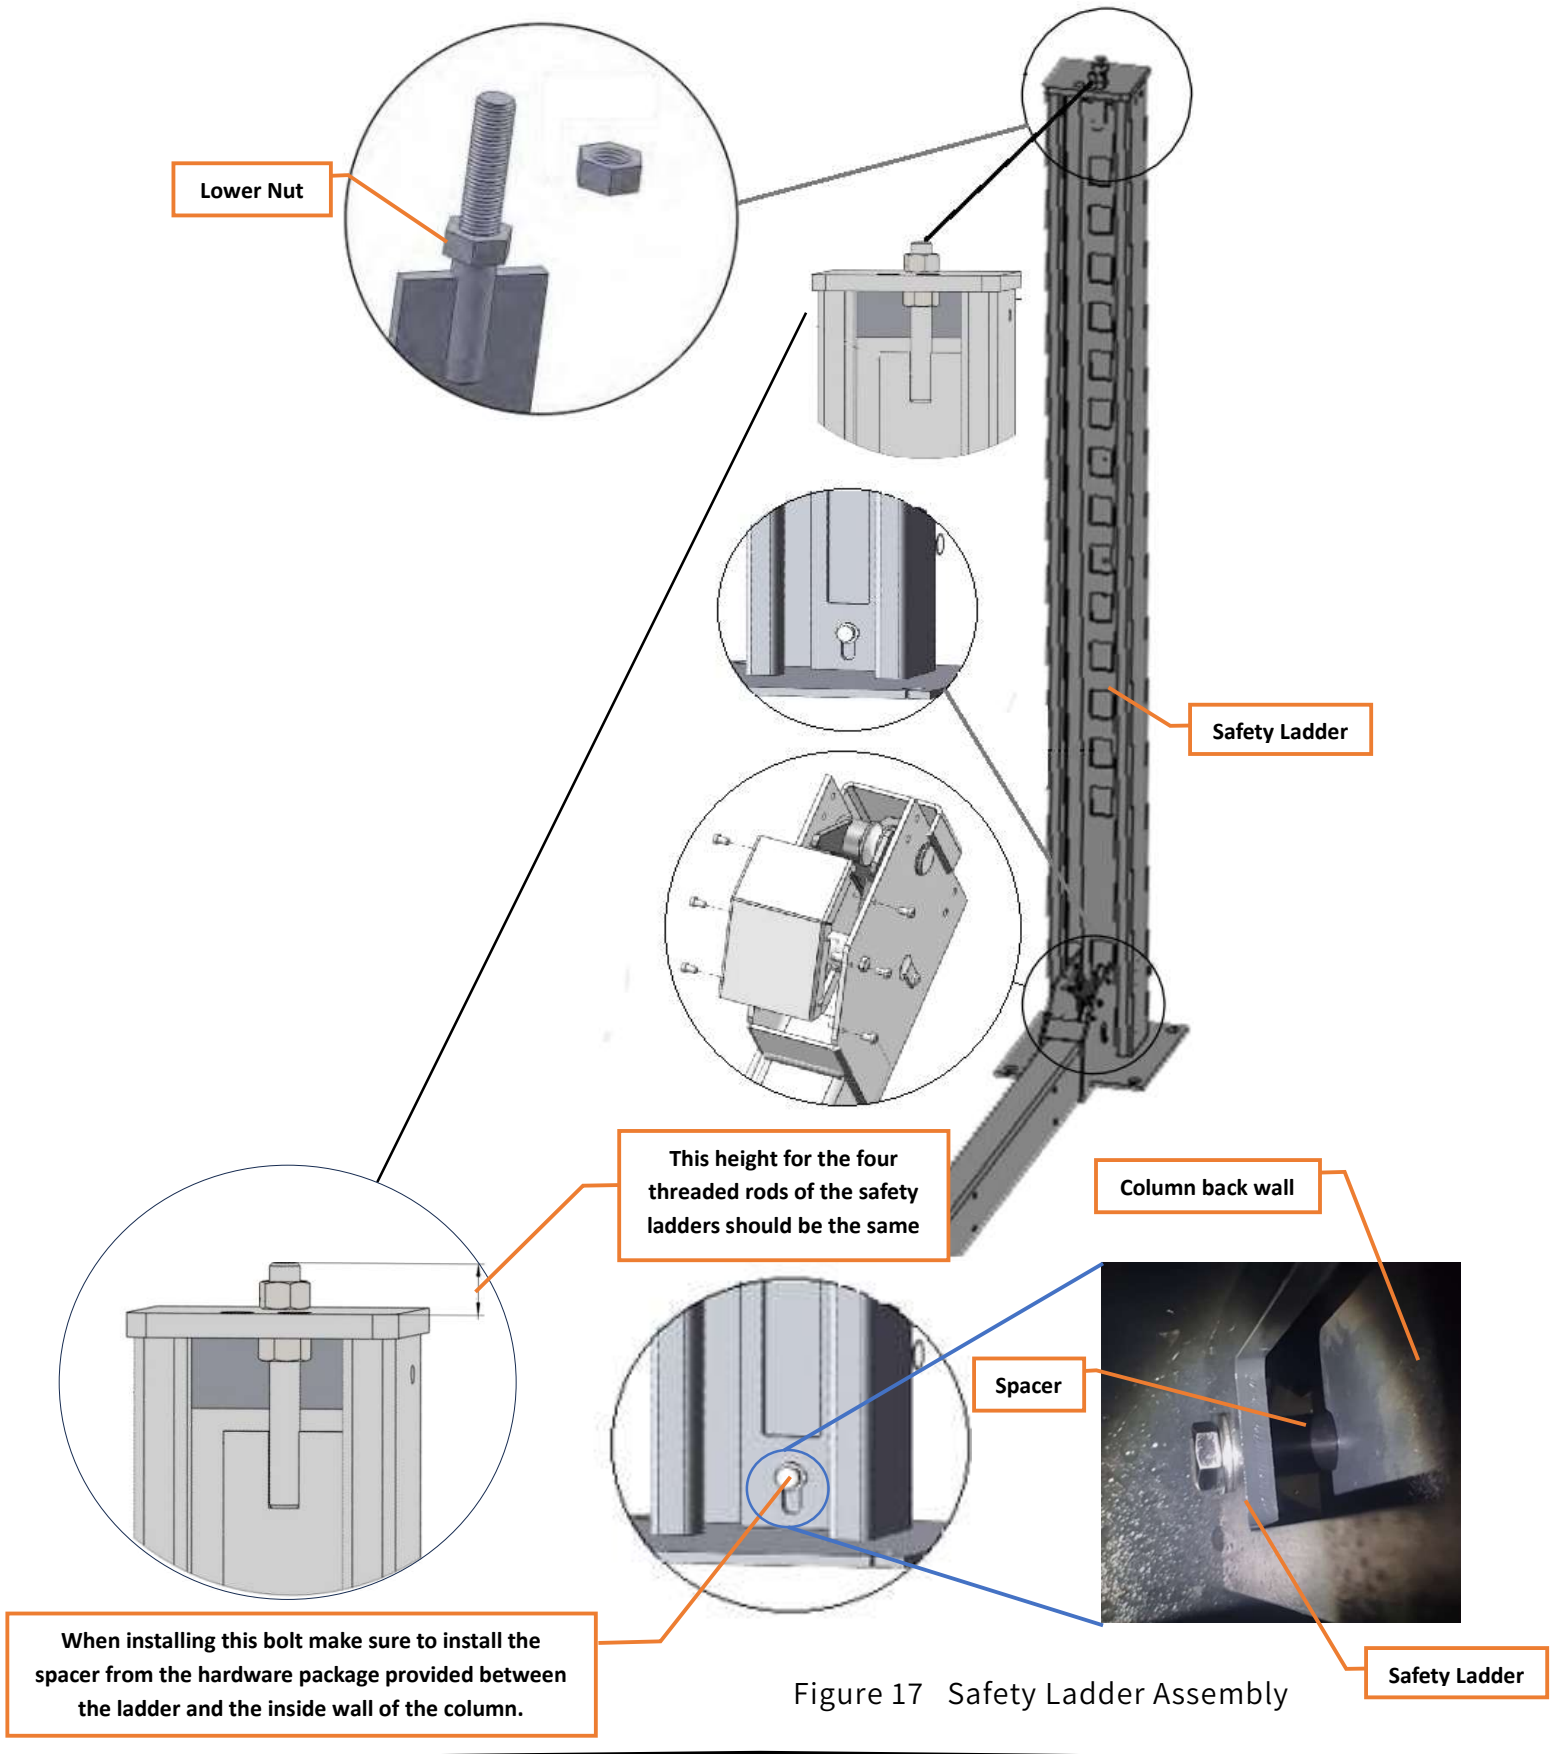

Figure 17 Safety Ladder Assembly
2. Adjust the four lower nuts so they are at the same position (See Fig. 17).